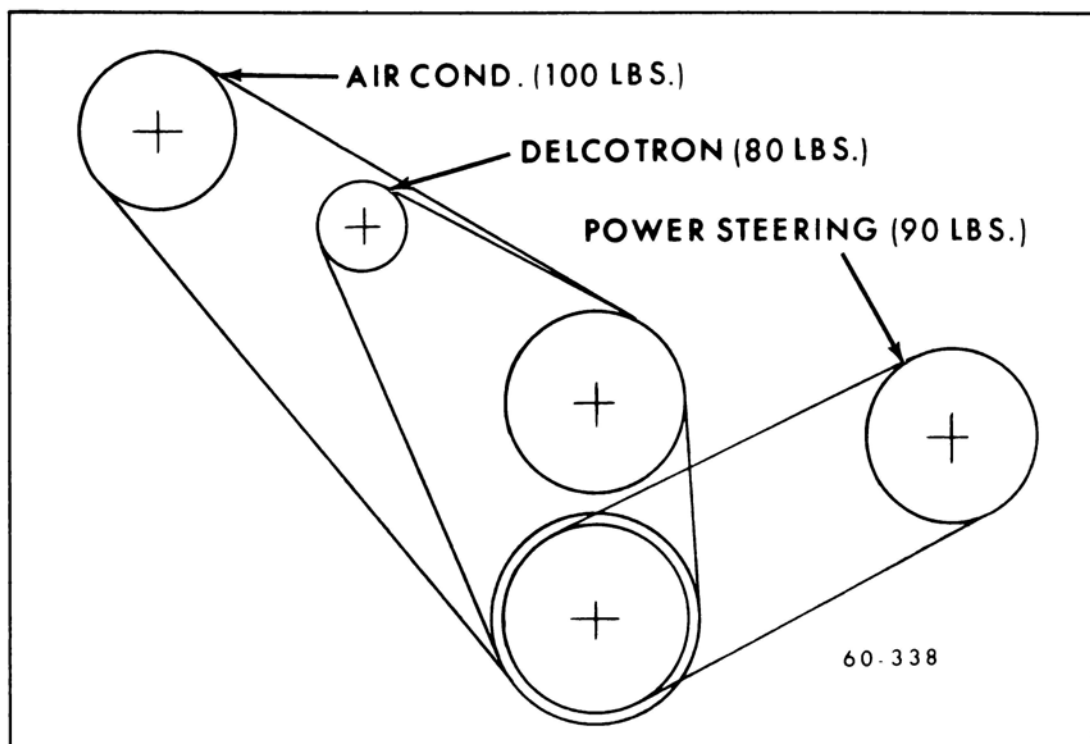

Figure 60-349—Engine Belt Tension Chart - 400 and 430 Cu. In. Engines
The Delcotron generator must be moved outboard to adjust the fan belt. After the Delcotron generator mounting bolts are securely tightened, the fan belt tension should be checked as shown in Figure 60-349.
If the power steering oil pump belt is removed it should be adjusted to tension specified, in Figure 60-349.
If the air conditioner compressor belt is disturbed it should be adjusted as specified, in Figure 60-349.
3. Install fan pulley or pulleys and fan blade, tighten attaching bolts securely. Install belts and adjust for proper tension. See Figure 60-349.